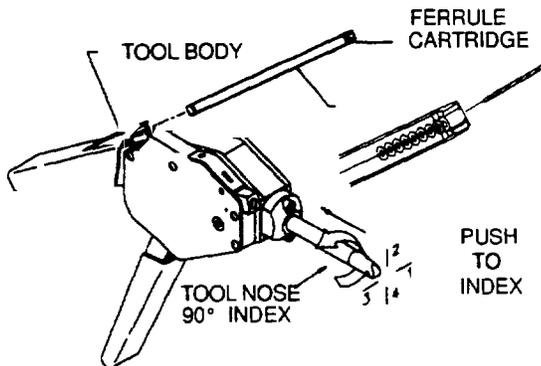

Figure 2-95. Pre-Set Tension Safety Cable Tool
- (3) Install the safety cable through the fasteners to be secured.
- (4) The nose can index to four positions at 90° increments. To select the position, push the nose in towards the tool and rotate to the desired position. Release the nose, if the nose does not lock into the indexed position, turn it slightly until it does. See figure 2-95.
- (5) Insert the free end of the cable through the ferrule in the cartridge, and remove the ferrule by pulling the cable away from the end of the cartridge. See figure 2-95.
a. The Pre-Set Tension Tool. (See figures 2-95 and 2-96). Insert the free end of the cable into the cable entrance and continue to push the cable into the cavity. When the free end of the cable appears at the bottom of the tool, grip the cable and pull the slack from the cable until resistance is felt. Begin removing slack from the cable by repeatedly closing the tool handle allowing the handle to open fully before closing again. When all slack is removed from the cable, snug the tool against the fastener by using several short strokes of the handle. Release the handle to the full open position and fully close the handle to crimp securely and cut flush.